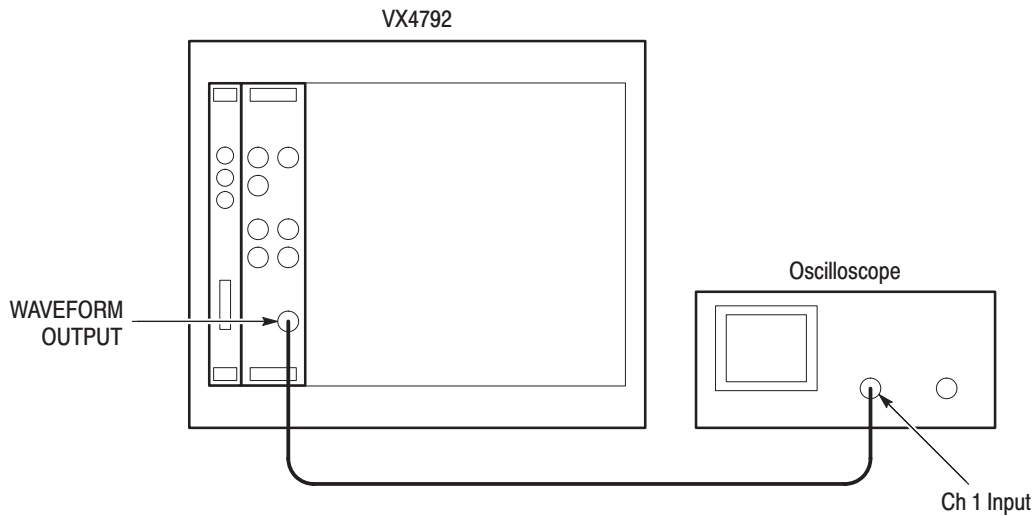

Figure F-9: Waveform Advance Mode Initial Test Setup
1. *Install test setup and set test equipment controls (see Figure F-9):*